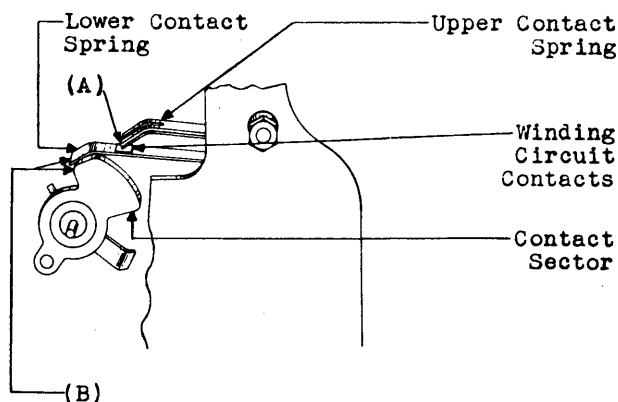

Fig. 4 - Winding Circuit Contacts
***2.11 Contact Separation - Fig. 4 (A):** The contact separation between the winding circuit contact springs, when in their normal position, shall be approximately 1/32" Gauge by eye.
***2.12 Alignment of Contact Spring and Contact Sector - Fig. 4 (B):** With the contact sector about to touch the lower contact spring, the tip of the spring shall be approximately even with the edge of the incline of the contact sector. Gauge by eye.